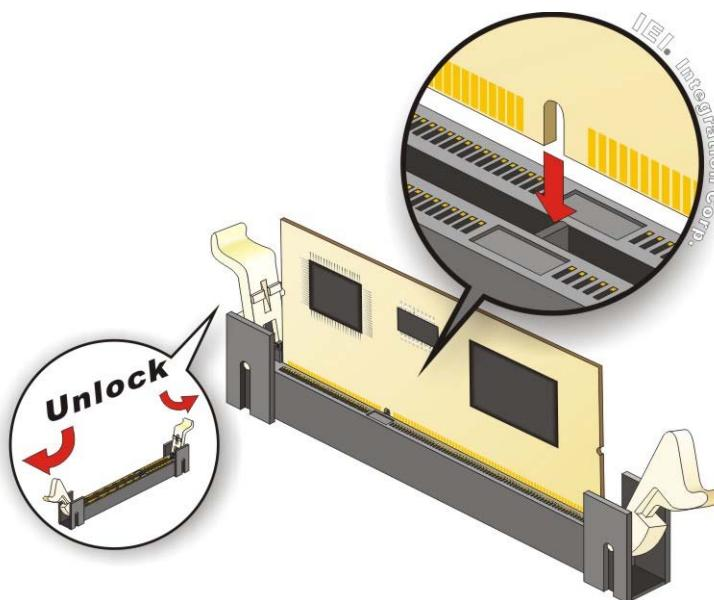

Figure 4-7: iRIS Module Installation
To install the iRIS-2400 module, please follow the steps below and refer to **Figure 4-7**.
See **Figure 4-7**.
Step 3: Align the iRIS-2400 module with the socket. Align the iRIS-2400 module so the notch on the module lines up with the notch on the socket. See **Figure 4-7**.
Step 4: Insert the iRIS-2400 module. Once aligned, press down until the iRIS-2400 module is properly seated. Clip the two handles into place. See **Figure 4-7**.